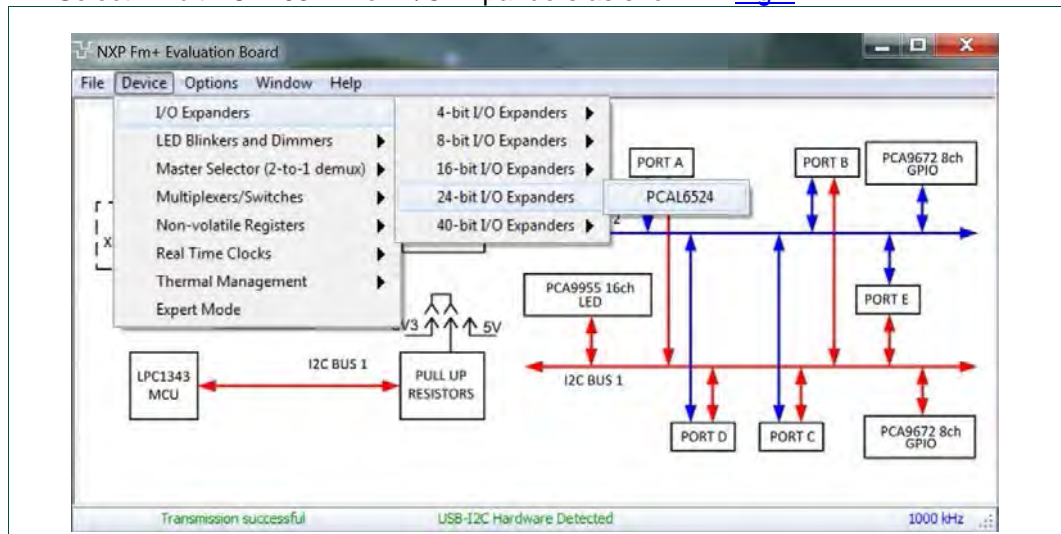

Fig 7. Device selection screen for PCAL6524
1. Select 24-bit PCAL6524 from I/O Expanders as shown in Fig 7.